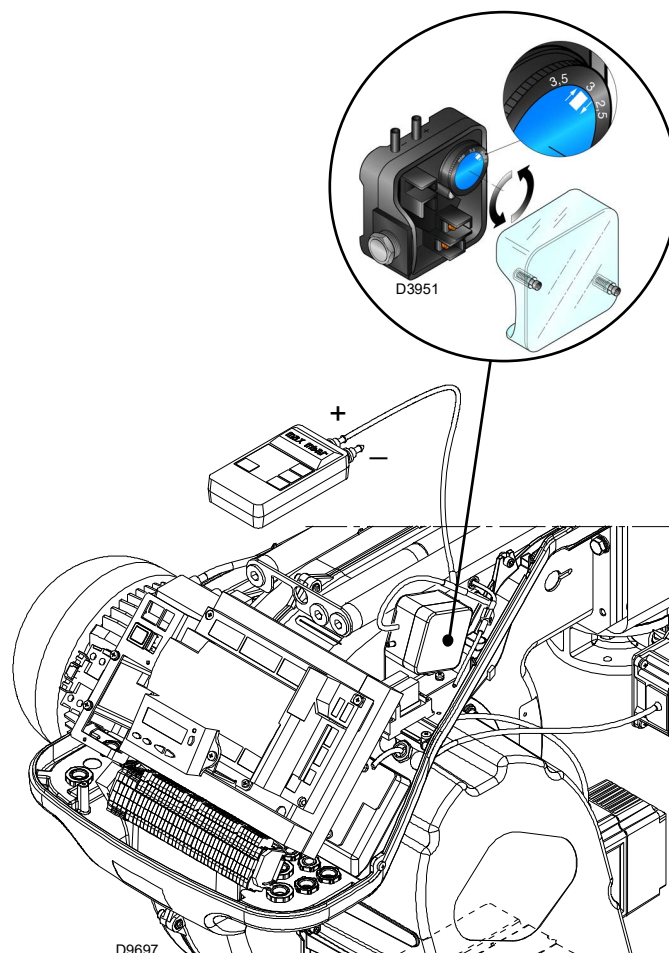

Fig. 29
- Adjust the air pressure switch (Fig. 29 at page 33) to the start of the scale.
Adjust the air pressure switch (Fig. 29) after having performed all other burner adjustments with the air pressure switch set to the start of the scale.
The connection of the pressure gauge is shown in Fig. 29. The standard configuration is that with the air pressure switch connected in absolute mode. Note the presence of a "T" connection, not supplied.
In this case also, the pressure gauge must be connected in differential mode, as shown in Fig. 29.